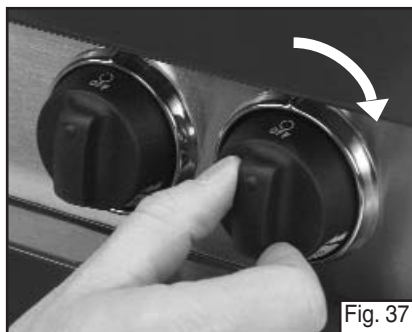

Fig. 37
- Make sure Burner Valves are in OFF position. (Fig. 37)